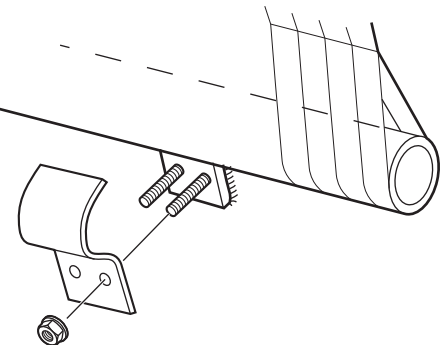

Figure 17
5) See Figure 17. Position the fixed tube and tarp slightly above the quick-release mounting plates. Use 5/16-18 flange nuts (7) to install the fixed tube clamps (2) onto the mounting plates, clamping the tarp in place. Make sure the fixed tube and tarp are straight and smooth with no substantial wrinkles.